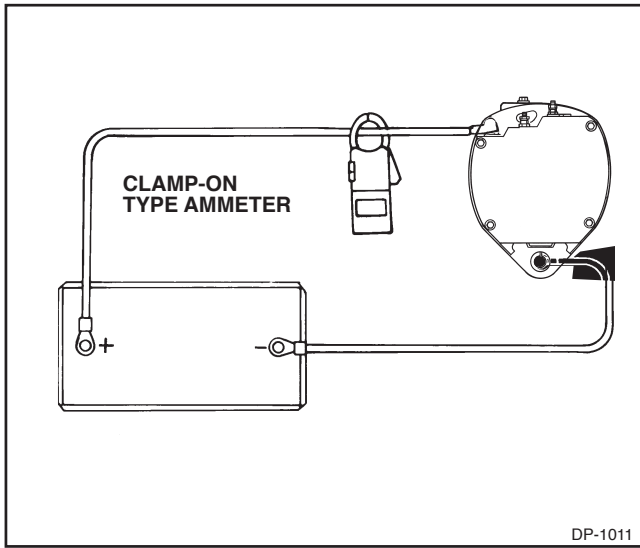

Figure 1-11. Clamp-On Type Ammeter
3. Figure 1-11 shows a clamp-on ammeter, the most common type of current measurement described in this manual. Be sure to zero out the meter before using and make sure the jaws are completely closed during use. Place the meter jaws around the cable, with the arrow points in the direction of current flow, to measure all the current.